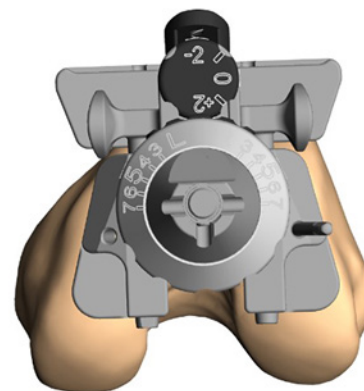

Figure 7
4. Orient rotation of the assembly neutral to the posterior condyles (Figure 7) insert a headed or non-headed 65mm SPEED PIN®(s) into one or both of the oblique pin holes.